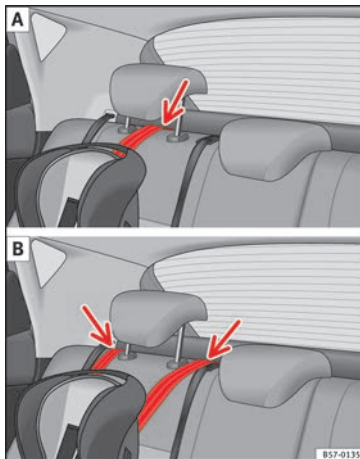

Fig. 33 Retainer strap: adjustment and assembly according to the Top Tether belt.
- Place the belt under the head restraint of the back seat » **Fig. 33** (depending on the in-